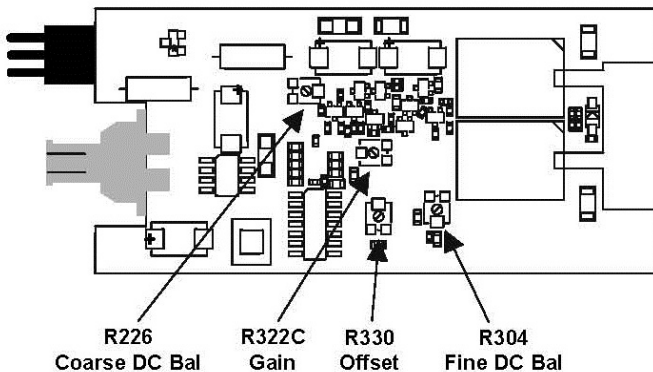

Figure 11, Amplifier Board Adjustment Locations
5. Adjust **Coarse DC Bal** (R226) on the amplifier board for an output voltage of 0 mV -10 mV. (See Figure 11 for location.)
11. Adjust **Offset** (R330) to bring the trace back to exactly center screen. (See Figure 11.)
- Adjust **GAIN** (R322C) so that the DMM reading is within ± 1 mV (0.5%) of the reading recorded in step F-6. (See Figure 11.)